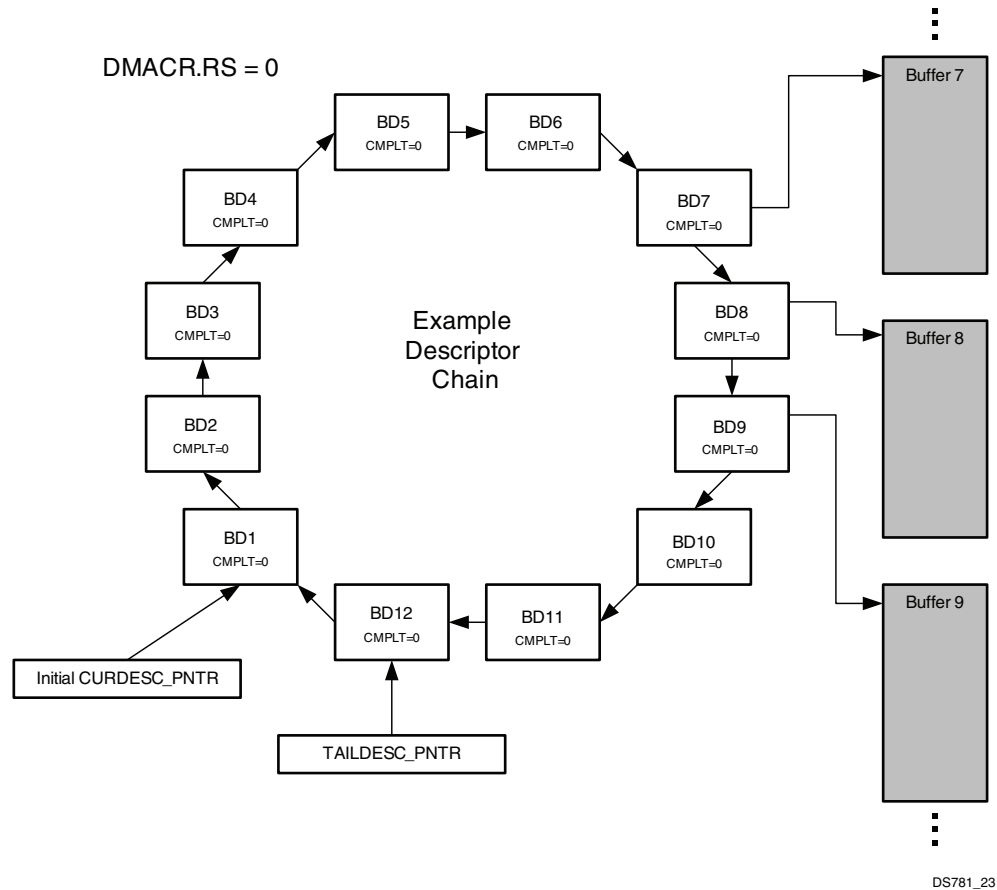

Figure 4-12: Initialization
1. Initialization (`DMACR.RS=0`), as shown in Figure 4-12.